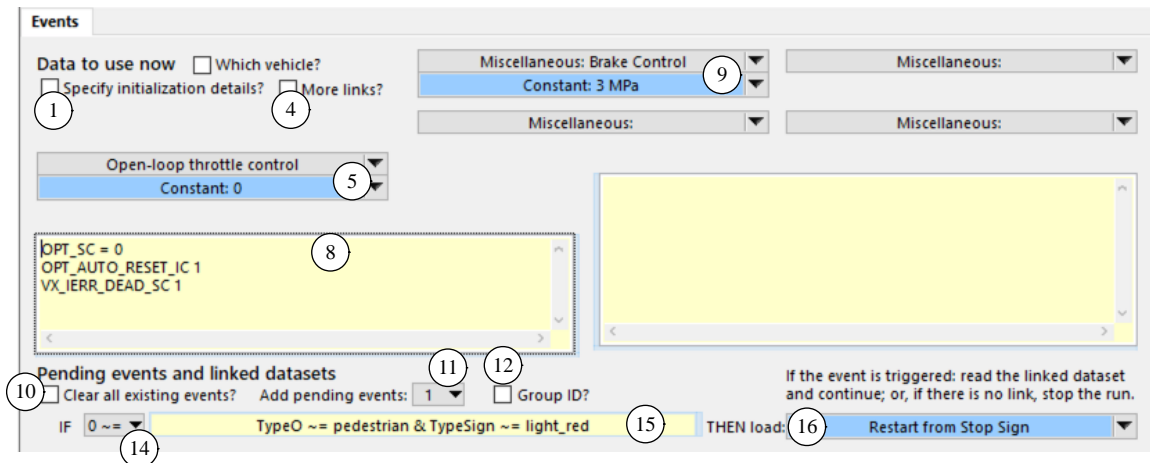

Figure 19. Event when waiting at a stop sign.
The dataset loaded when the vehicle is almost stopped (Figure 19) sets the throttle to 0 (5), turns off the speed controller with the command `OPT_SC = 0` (8), and applies some brake pressure (9). It also adds a pending Event for two conditions based on user-defined parameters and output variables from two ADAS sensors: if there is not a detected pedestrian (`Type0 ~= pedestrian`) AND there is not a detected red light (`TypeSign ~= light_red`), then load the Parsfile to restart the vehicle motion (16). In this example, different parameters represent red lights and stop signs. If a stop sign is in view, it's OK to start. But if it's a signal, the vehicle waits until the light changes.